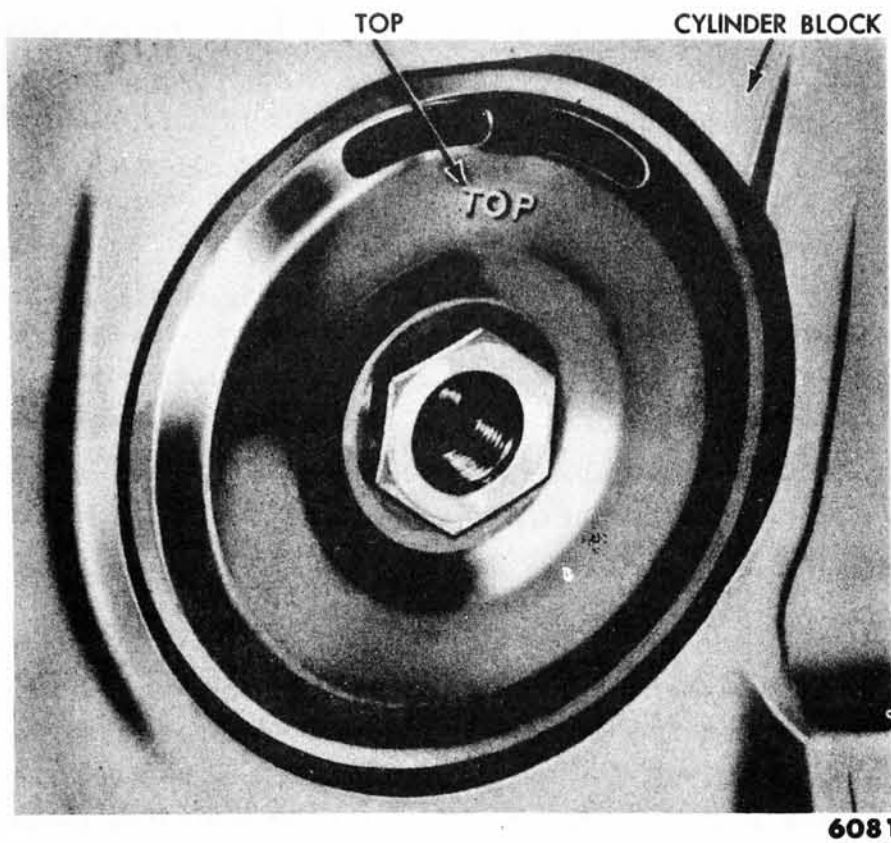

Fig. 34—Oil Filter Diaphragm Position
(5) **INSTALLATION.** Be sure the two elongated holes in the oil filter diaphragm are at the top, when positioned on the block, as shown in fig. 34. Install a new neoprene gasket in the filter housing recess. Place the filter assembly in position, and thread the center bolt into the adapter finger-tight. Rotate the filter assembly slightly, in each direction, to make sure the gasket is seated evenly. Tighten the center bolt $\frac{3}{4}$ -1 complete turn (20-25 foot-pounds torque).